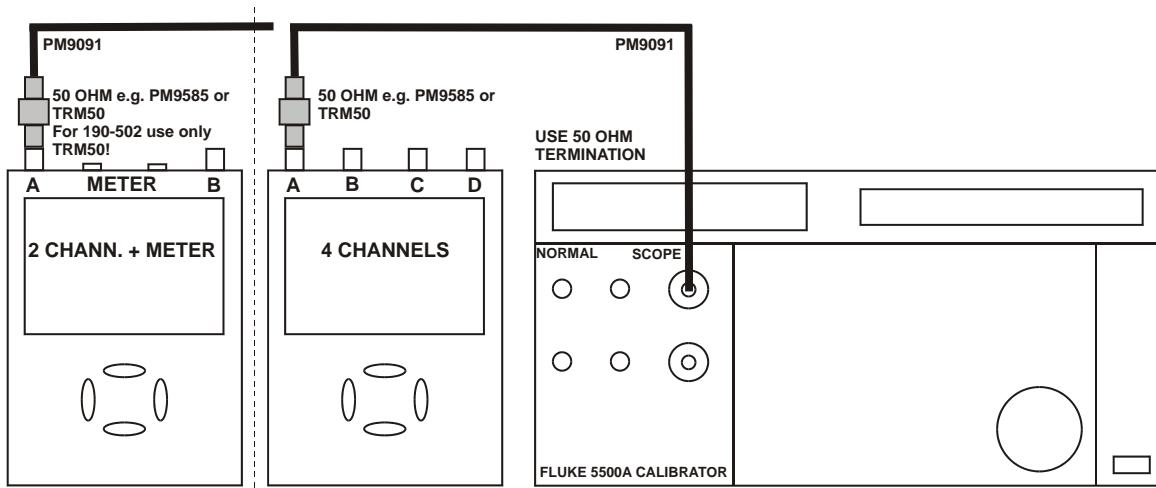

Figure 5-3. 5500A SCOPE Output to Test Tool Input A.
5. Connect the Test Tool to the 5500A SCOPE output as shown in Figure 5-3. Use  $50\Omega$  termination.
1. Connect the Test Tool to the 5500A as shown in Figure 5-3.